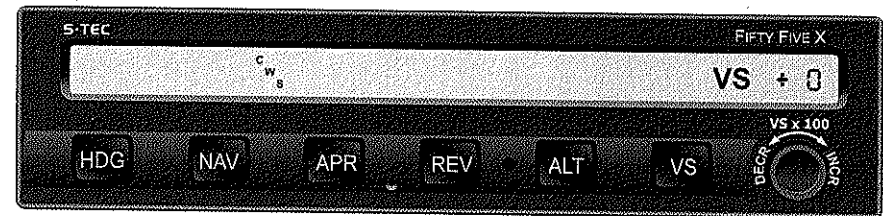

Fig. 2-8. AP Display, CWS Mode Armed or Engaged, 0 FPM (Pre-Flight)
11. Press/Hold CWS Switch to arm control wheel steering mode.	CWS, VS, and +0 (or $\pm 1$ ) annunciations only appear on AP display, as shown in Fig. 2-8.